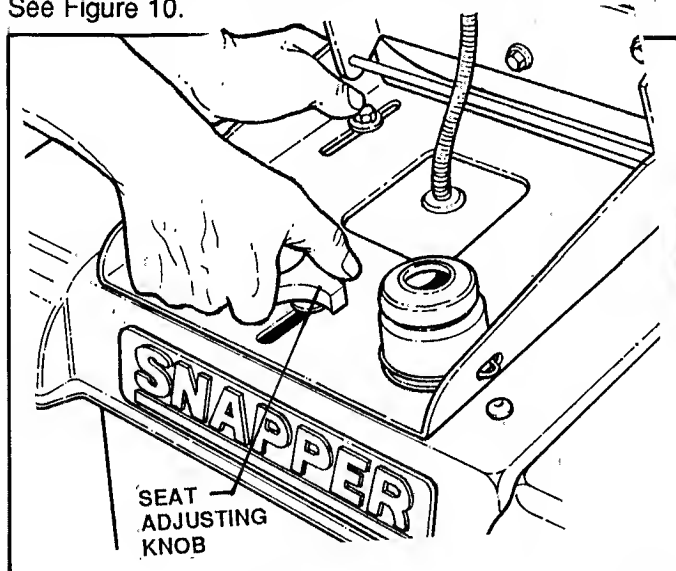

FIGURE 10
**FORE & AFT ADJUSTMENT:** With machine stopped, loosen the ADJUSTING KNOB on seat support. Sit in operator's seat and, while depressing the NEUTRAL RETURN/BRAKE PEDAL, slide the seat forward or rearward to the most comfortable position, then lock in position by tightening ADJUSTING KNOB. See Figure 10.